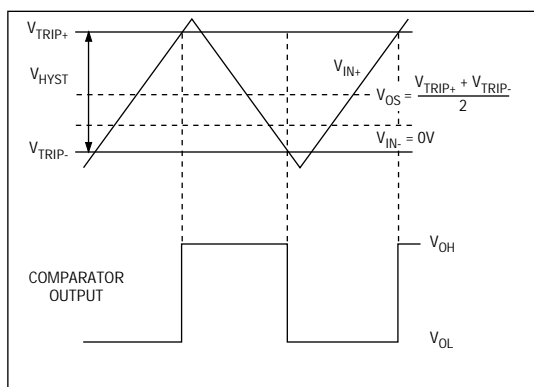

Figure 1. Input and Output Waveforms, Noninverting Input Varied
- Note 1:** Trip Point is defined as the input voltage required to make the comparator output change state. The difference between upper (V_{TRIP+}) and lower (V_{TRIP-}) trip points is equal to the width of the input-referred hysteresis zone (V_{HYST}). Specified for an input common-mode voltage (V_{CM}) of 0V. See Figure 1.
- Note 2:** Input Offset Voltage is defined as the center of the input-referred hysteresis zone. Specified for $V_{CM} = 0V$. See Figure 1.
Adding hysteresis to a comparator creates two trip points: one for the input voltage rising and one for the input voltage falling (Figure 1). The difference between these two input-referred trip points is the hysteresis.
Figure 1 illustrates the case where IN- is fixed and IN+ is varied. If the inputs were reversed, the figure would look the same, except the output would be inverted.